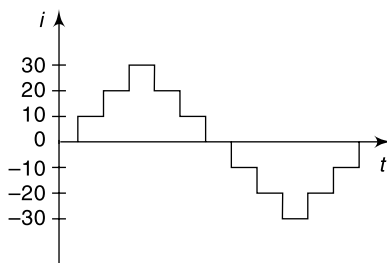

Fig. 5.85 Waveform for Ex. 5.16
16. Find the average value, rms value, form factor and peak factor of the waveform shown in Fig. 5.85